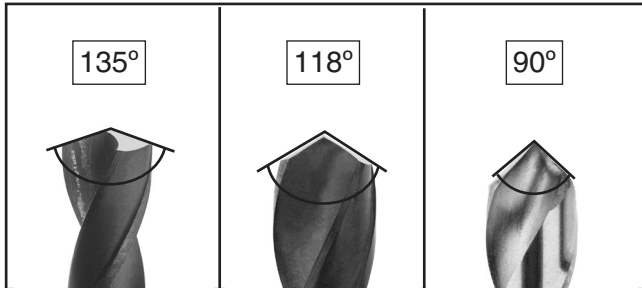
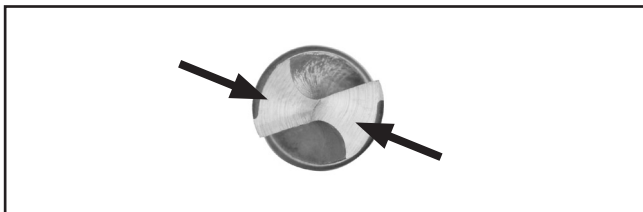

Figure 16. Point angle examples.
Figure 20. No unground surfaces remain on bit after point angle grinding (top view).
The Model H8203 allows you to select a specific point angle based on the type of material to be drilled. For general purpose use, such as wood and soft metal, set the point angle to 118° (see **Figure 16**). Set the point angle at 135° or 140° for drilling harder workpieces such as stainless steel, or 90°-100° for drilling soft cast iron workpieces.
- If you want to grind the same angle that is already on your bit, match the bit with one shown in **Figure 16**.
—If the point angle is even on both sides of the bit, (**Figure 16**), and no unground material remains, as shown in **Figure 20**, the point angle is correct. Now, go to **Rear Trimming Area** to grind a back angle.